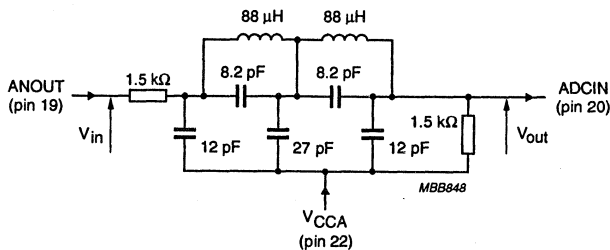

Fig.12 Example of lowpass filter for Y and C signals.
- (1) It is recommended to decouple V_{CCO} through a 22 Ω resistor especially when the output data of TDA8709 interfaces with a capacitive CMOS load device.
- (2) See Figs 12 and 13 for filter examples.
Note to figures 12 and 13